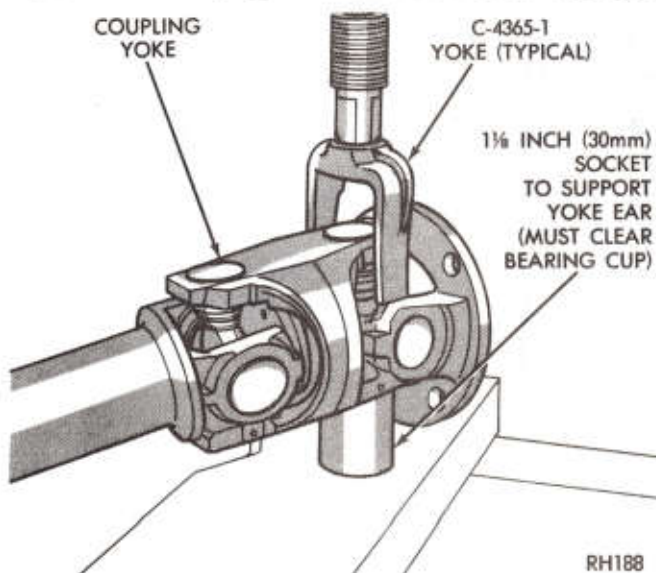

Fig. 15—Bearing Cup Removal (Tool C-4365-1)
(3) Support the propeller shaft horizontally in line with the base plate of a press. Place the rear ear of the coupling yoke over a 1-1/8 inch (30mm) socket. Place the cross press Tool C-4365-1, on the bearing cups in the flange yoke (Figure 15). Press the bearing cup out of the coupling yoke ear.